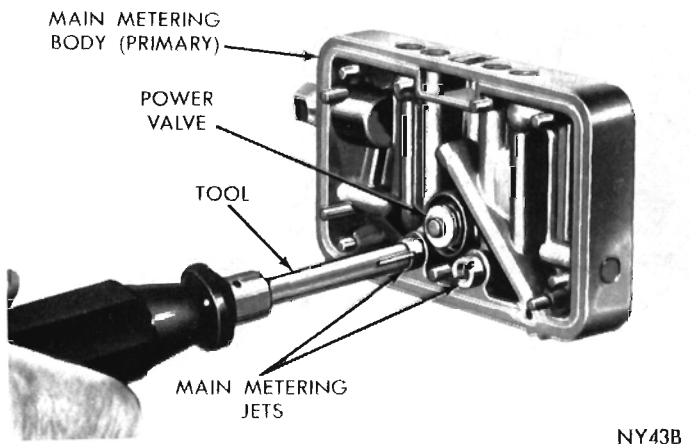

Fig. 8—Removing or Installing Main Metering Jets
(2) Using Tool C-3748, remove main metering jets (Fig. 8).
(3) Remove idle adjusting needles and gaskets.
(3) Install main metering jets (Fig. 8), using Tool C-3748. Tighten securely.